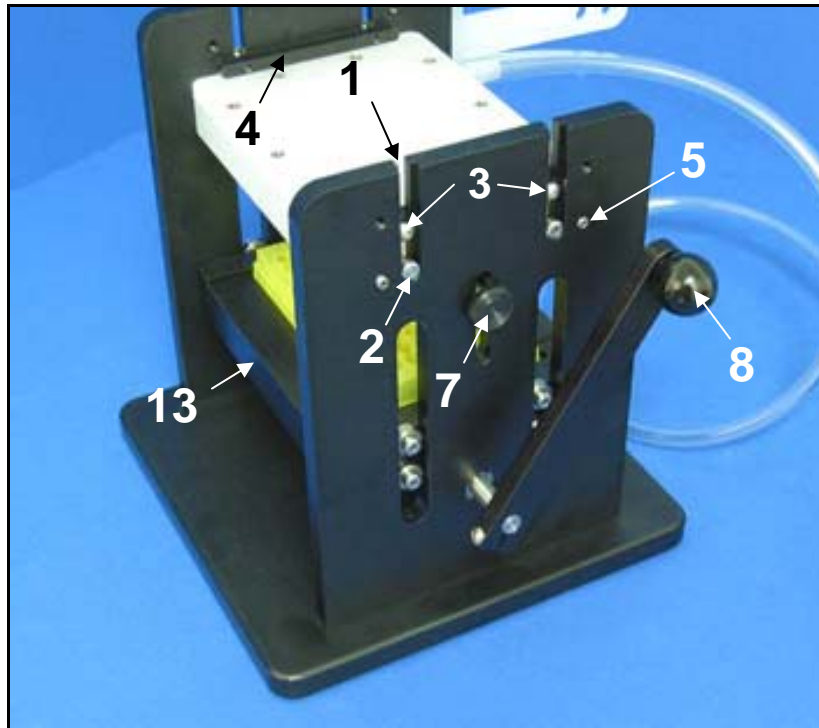

Figure 1: VP 179A Jig with Aspiration Manifold
1. Loosen Manifold Hold-Down Screws (3) using the 1/16 Allen wrench and remove the Manifold Hold Down Bars (4) (Figure 1).
2. Place the shoulder bolt heads (2) of the Manifold into the Jig slot (1) and slide down into the slots until shoulder bolts hit the bottom of the slots.